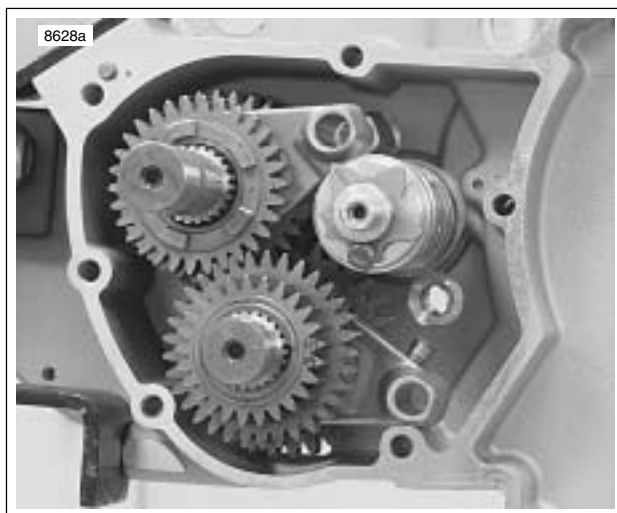

Figure 6-58. Transmission Assembly
- See Figure 6-58. Remove shifter drum and shifter forks.